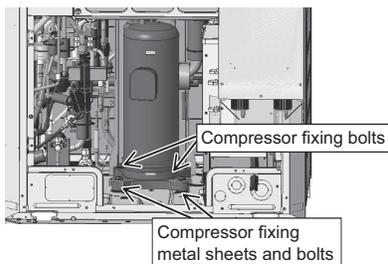

Figure 12
(12) Remove the four bolts holding the compressor down. (See Figure 12.)